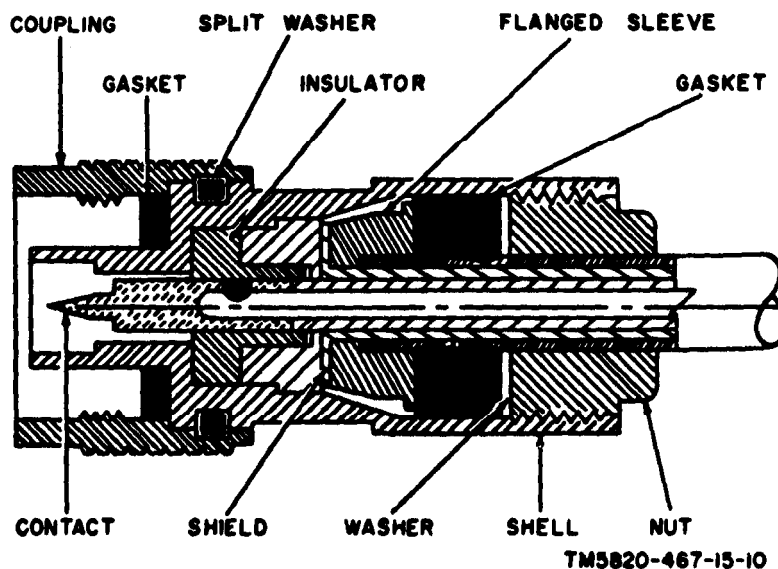

Figure 10. Cross section of rf cable and connector.
19. Repair of Rf Cable (Third Echelon) (fig. 10)